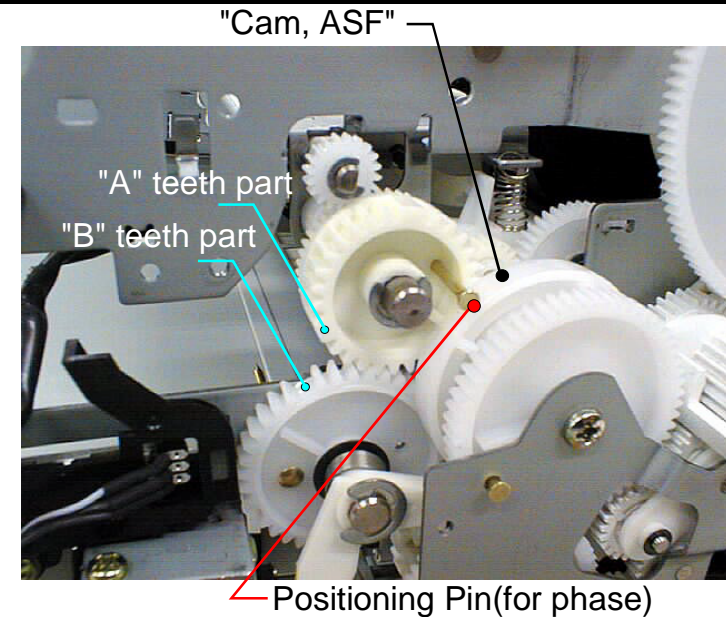

Figure 4-119. Arranging Alignment between "ASF Unit" and Gear Train
39. At the point that the flat side of "Roller, Paper Feed" faces down, since the positioning hole of "Combination Gear,24,24" and the hole on the "ASF Unit" should be matched, insert the positioning pin into this hole and leave it on the "Cam, ASF". (Refer to Figure4-119)